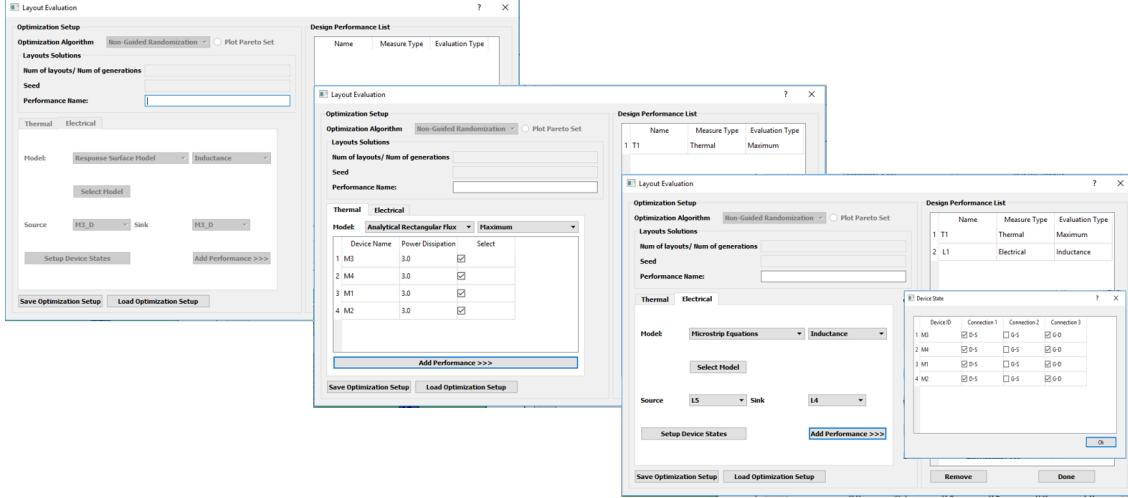

Figure 11: Mode 0 optimization setup flow
Choose "**Minimum size Layout**" from the drop down list on the "Modes" section. Then click on the "**Optimization Setup**" button to add performance metrics. Upon clicking the button, the optimization setup window will appear (shown in Fig. 11). Initially, only "**Performance Name**" field is editable as rest of them are fixed for Mode 0. Here, for thermal evaluation "T1" is entered as "Performance Name" and then click on the "Thermal" tab to choose thermal model and evaluation type. In this case, "FEM" model is chosen and "Maximum" temperature is picked for measurement. Then mark the check boxes corresponding the devices you want to measure. Here, all devices are considered. Then click on the "**Add Performance**" button to store the thermal measurement configuration in the "Design Performance List". Then again, the "**Performance Name**" field is populated with "L1" to measure inductance for the layout. Click on the "Electrical" tab to define electrical performance parameters. First, Model (Micro strip) and then type of measurement (Inductance) are chosen. In case of "Response Surface Model", "**Select Model**" button needs to be used to implement the model. Now, to calculate loop inductance one source and sink from the layout are chosen. In this example source is "L5" and sink is "L4". Then to complete the loop, "**Setup Device States**" button needs to be used to add proper connection (similar to shown in 2.5.5). Having all of the setup click on the "**Add**
**Performance**" button to add the measurement in the "Design Performance List". After each step the window status is shown in Fig. 11. Now click on the "**Done**" button. Also, the optimization setup can be saved by clicking on "**Save Optimization Setup**" button. Later the same setup file can be loaded for this case using the button "**Load Optimization Setup**". After adding performances, click on the "**Generate Layouts**" button to have the minimum size layout. It will show one dot in the "Layout Selection" frame. Upon clicking on the dot, the "**Width**" and "**Height**" field will be populated with minimum size of the solution and "Generated Layout" frame will show the layout. The result is shown in Fig. 12.